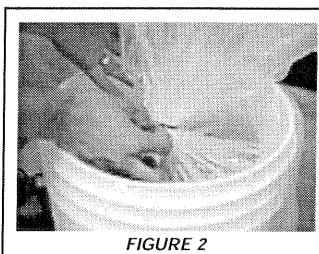

FIGURE 2
3. Gather the top of the inside bag and while "squeezing" the air out of the top, take the twist tie and wrap it around the neck of the bag and tie it shut. (Fig. 2)